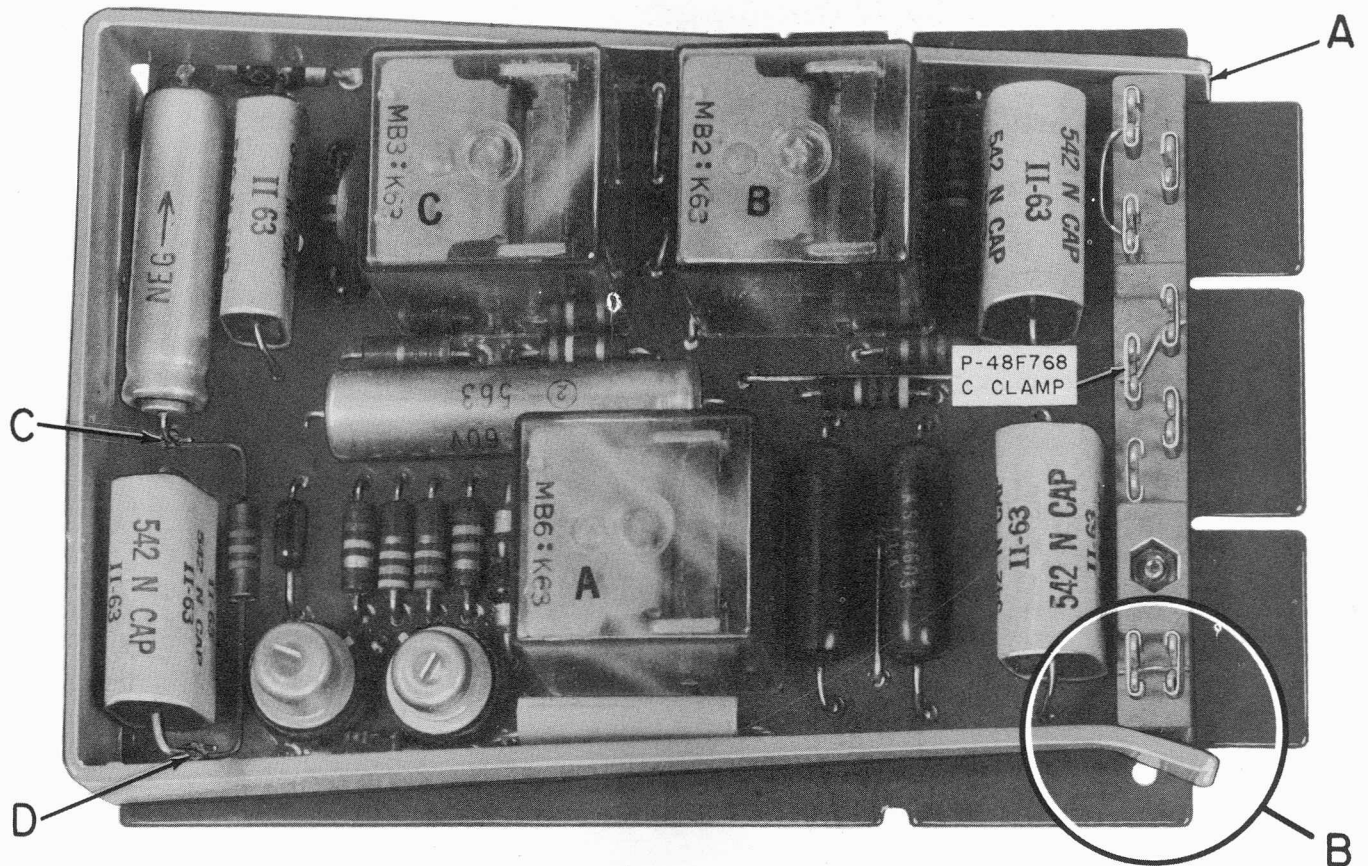
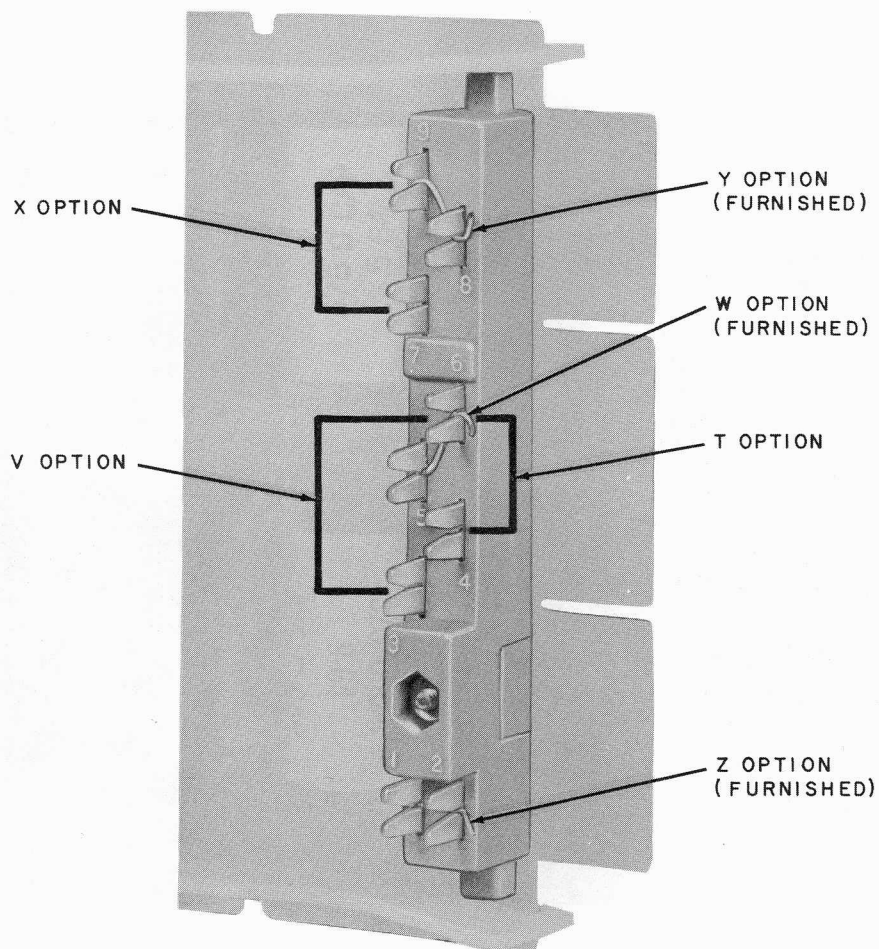

Fig. 4 — Modification of 400B or C KTU
Fig. 5 — Option Block, 400A, B, and C KTUs
3.02 On early production models of 400B and C KTUs, the wire clips on the option blocks require that small (P-48F768) C-clamps be slipped over the clips to assure option strap retention and good circuit continuity (Fig. 4).
3.03 Later production models of the 400B and C and all 400D KTUs are equipped with flat stamped option block terminals that do not require use of C-clamps (Fig. 5 and 6).
3.08 To modify the 400B and C KTUs, connect a 1/2-watt, 100,000-ohm resistor electrically in parallel with the C5 capacitor. Physically, place, connect, and solder the resistor between points C and D as shown in Fig. 4.
- 5.02 Line circuit failure can occur as a result of improper seating of the 400B or C KTU in its receptacle. On early production models of these units, the ends of the U-shaped handle may strike the receptacle and prevent the unit from being fully seated (point A on Fig. 4). Should this condition exist, bend the outer ends of the handle sufficiently to permit passage over the ends of the receptacle (point B on Fig. 4). After bending, the arms of the handle should be sufficiently pretensioned (squeezed together at the base of the U) to rest snugly against the ends of the option block. Later models have the option block insert extended at each end sufficiently to hold unbent U-handle arms in order to allow proper insertion in a mounting receptacle. Handles should not be flared on these KTUs (see Fig. 5).